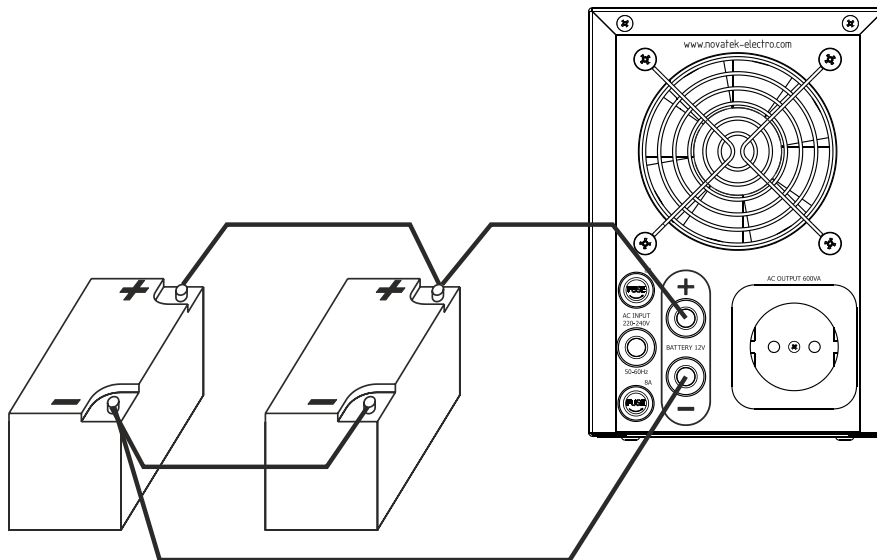

Figure 5 - Example of parallel ACB connection and diagonal UPS connection
- In case of using multiple batteries, connect the batteries in parallel (see. Fig. 5). Connecting additional batteries requires additional wires that you need to purchase separately. When connecting two or more batteries, positive terminal of one battery is connected to the positive terminal of the other, and negative terminal - with the negative terminal of the other ACB.
- When using a battery of two or more accumulators, they must be of the same type and capacity (if capacity is different the batteries would have different internal resistance, whereby the charge level will be uneven). See an example of parallel connection of two ACBs in Fig. 5.